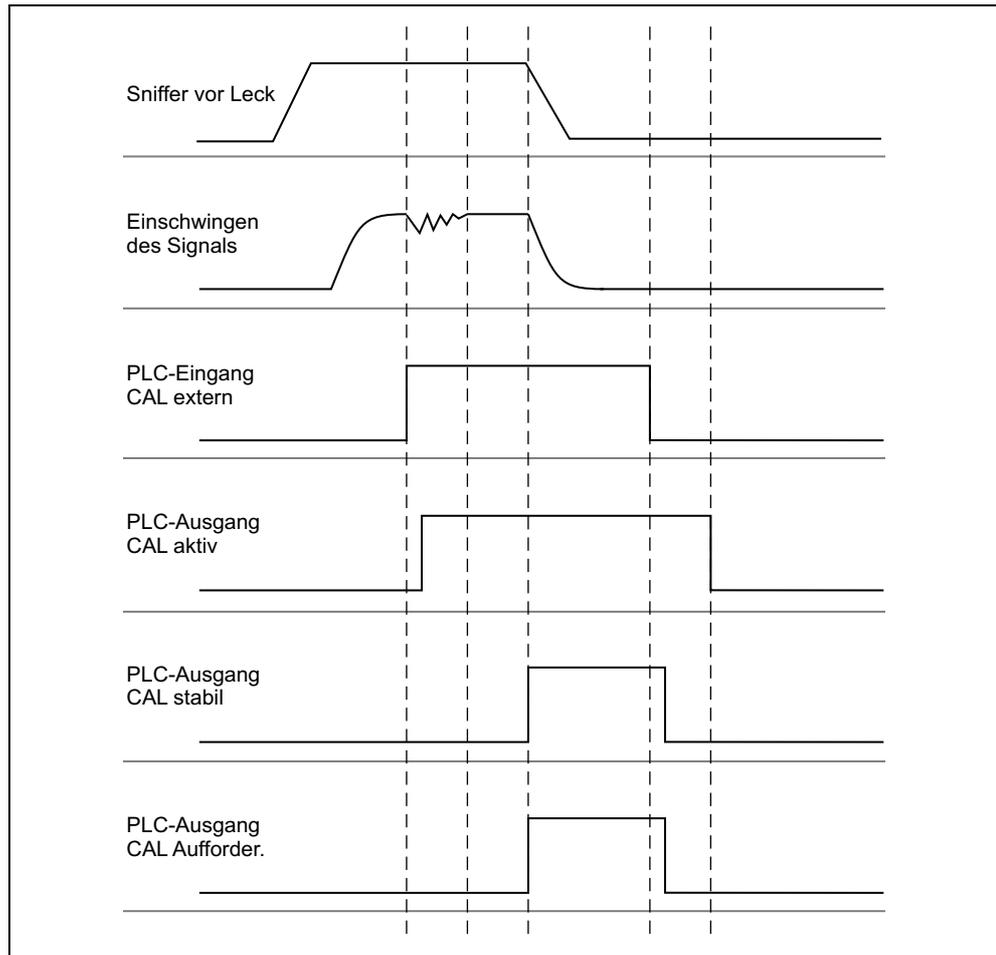

Fig. 6 External calibration with IO1000 using the example of sniffer line SL3000XL, description of PLC inputs and outputs: see page 48
IO1000 see Fig. 6.
- IO1000 compare Fig. 6.